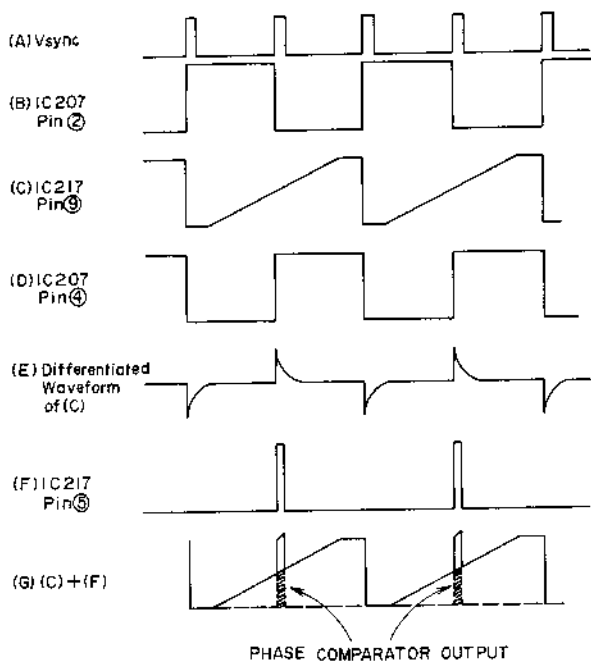

Fig. 2-7
The square wave from Pin ② is also supplied to the CTL head through IC8 REC CTL pulse amp and is recorded on the tape as the control signal. The square wave from IC7 Pin ④ (the same as the waveform to Pin ②, but reverse phased) is differentiated and is amplified at IC10, passes the "not P.B. Pulse Amp" and is sent to IC17 phase comparator pulse generator circuit. This pulse and the trapezoid wave which entered Pin ⑨ is phase compared at IC17 and the emitted phase comparator output is sent to the Capstan Motor Drive Amp. Because both the sampling pulse produced at the pulse generator and the trapezoid wave to Pin ⑨ were produced from the V. Sync, the sampling pulse appears in the center of the trapezoid wave as shown in Fig. 2-7.